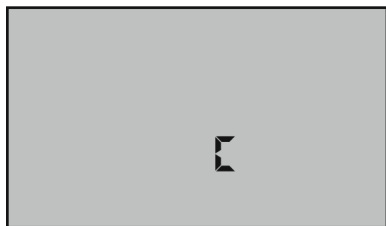

Figure 15
3. Press  repeatedly until you pass the “US” or “Int” date format location. The display will show a “C” or “F” (see Figures 15 and 16, pg. 42).